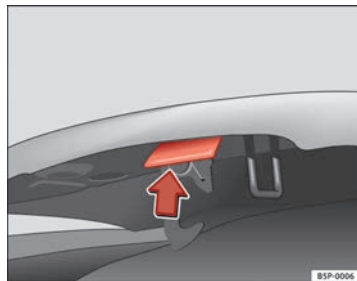

Fig. 179 Release catch under the bonnet
- Press the release catch under the bonnet upwards ⇒ Fig. 179. This will release the arrester hook under the bonnet.